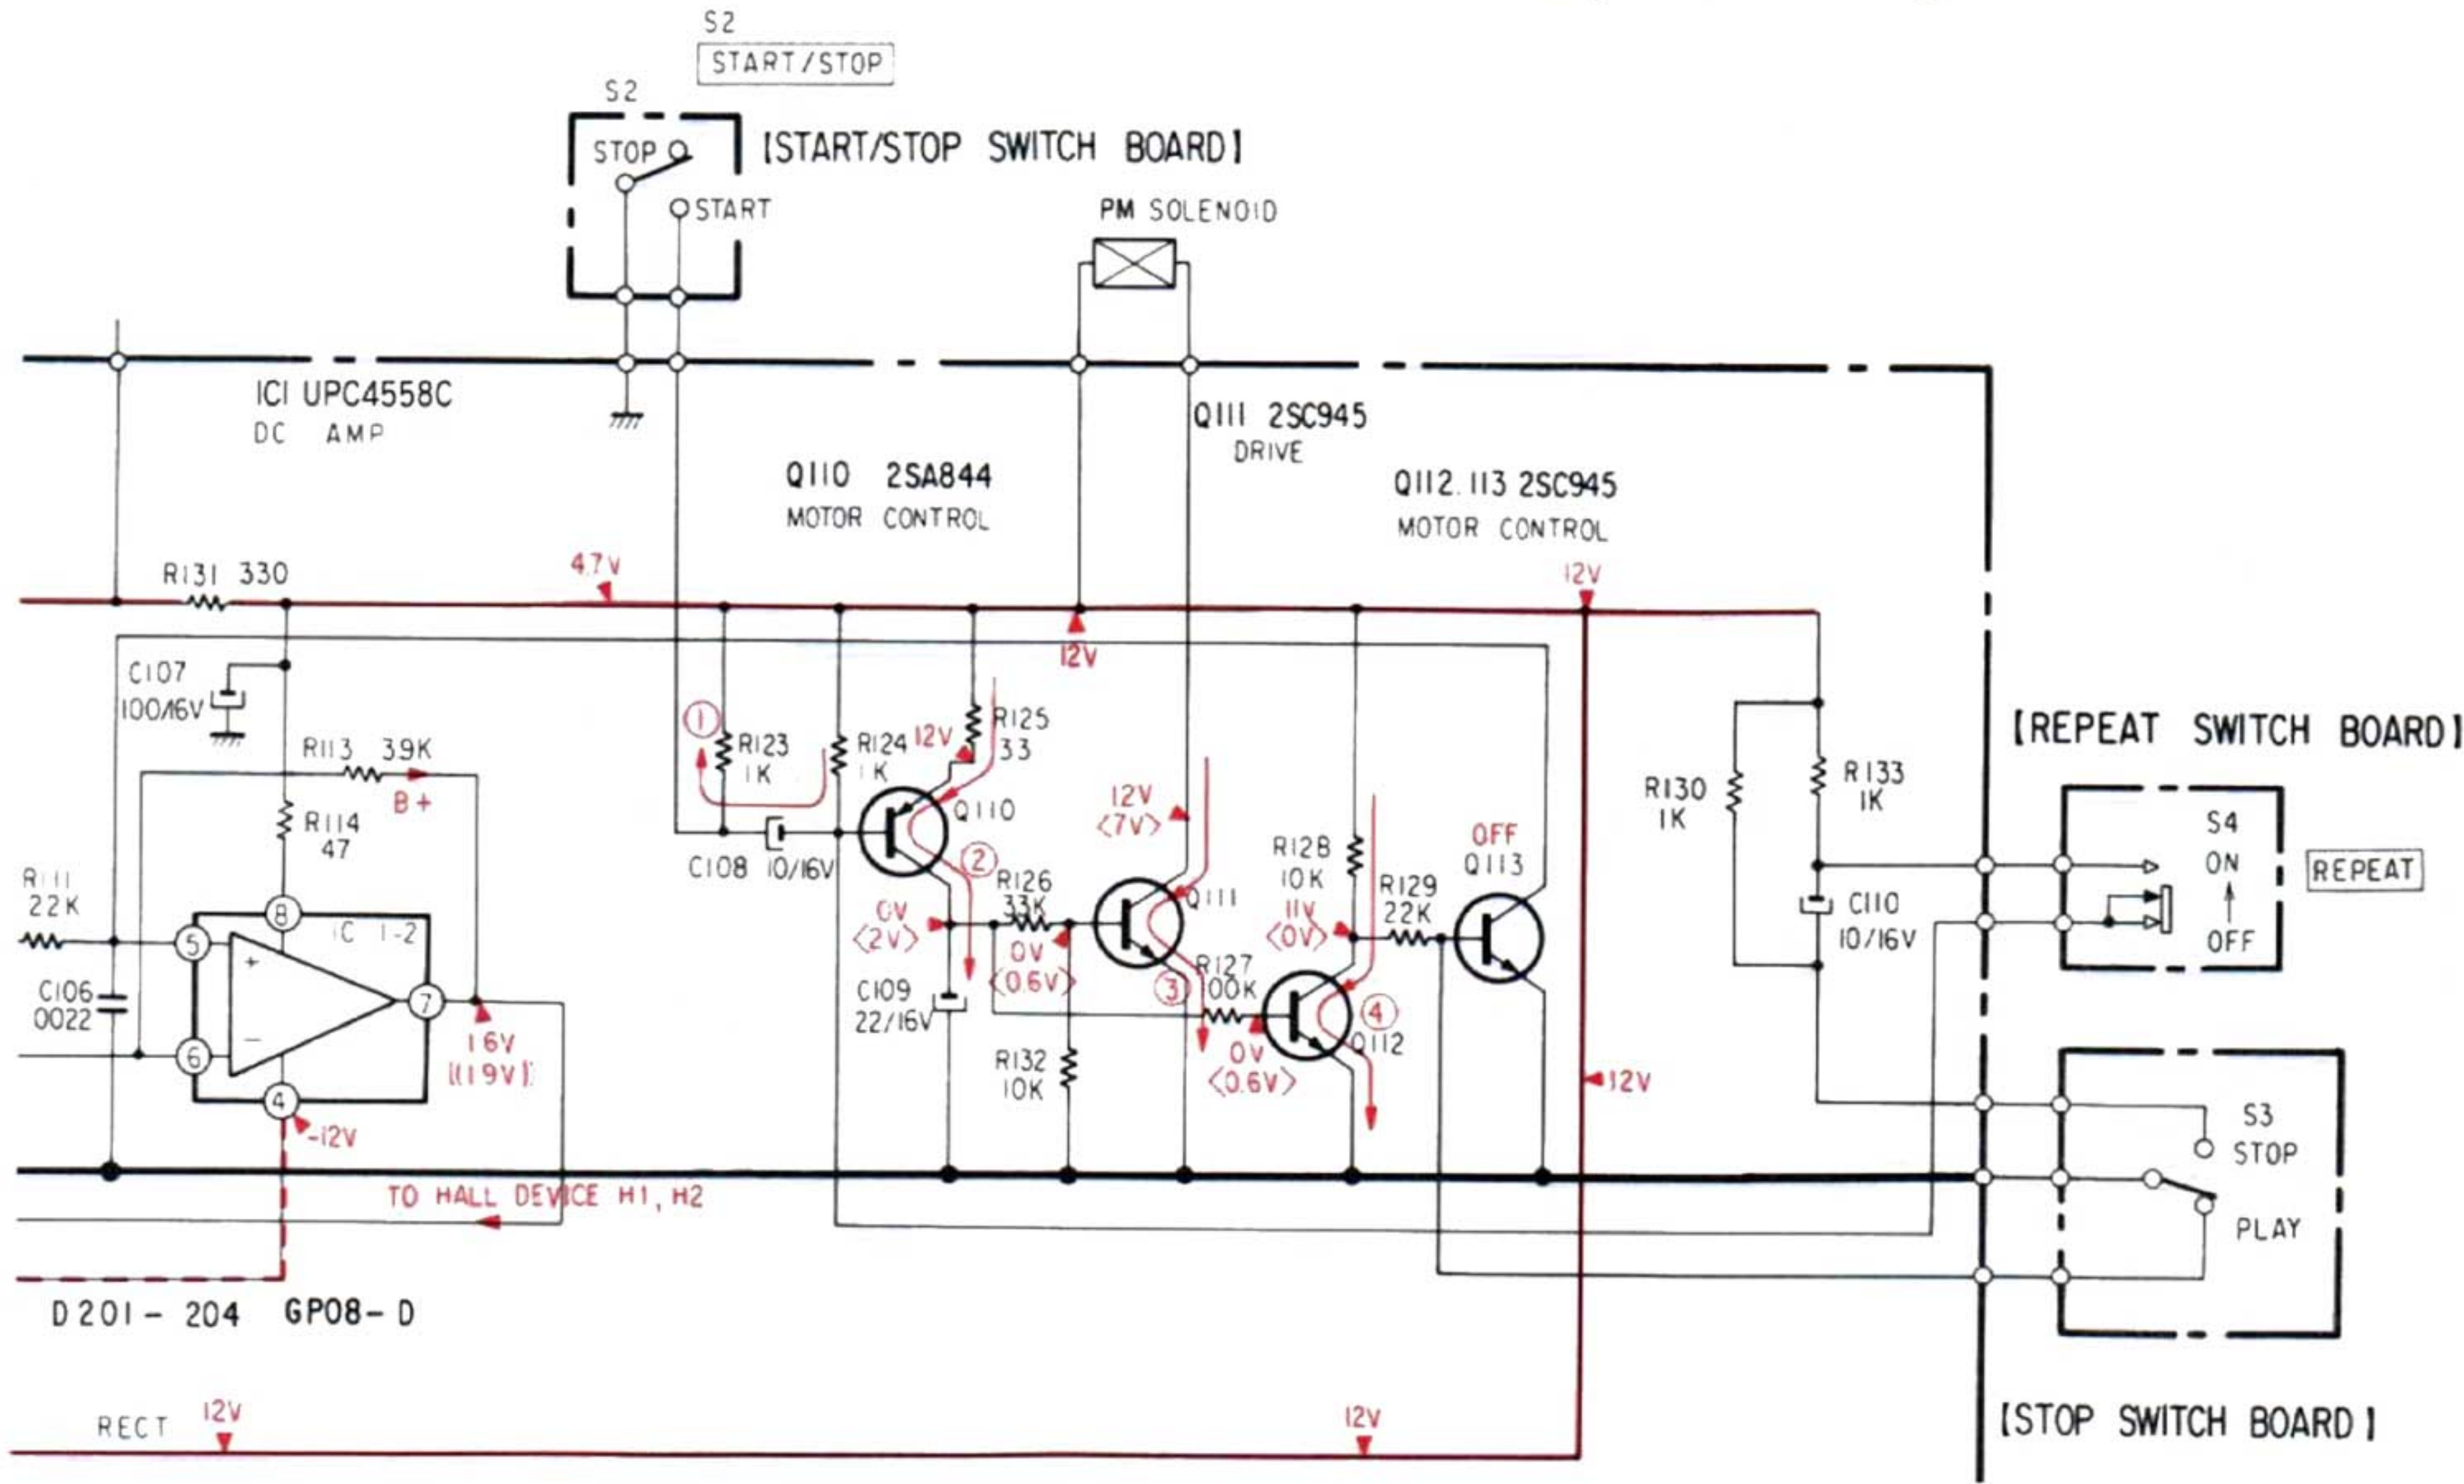

Fig. 1-15
1. START Operation (See Fig. 1-15)
- a. When the START/STOP switch (S2) is pushed, Q110, Q111 and Q112 conduct for a moment. This turns Q113 off and the solenoid (PM) on.
b. A positive voltage is applied to the terminal ⑤ of IC1-2 by off-state of Q113 and the turntable starts rotating.
- c. The center gear is engaged with the pawl of drive gear by means of the solenoid (PM), and the drive gear starts rotating. (The tone-arm moves toward the lead-in groove of the record.)